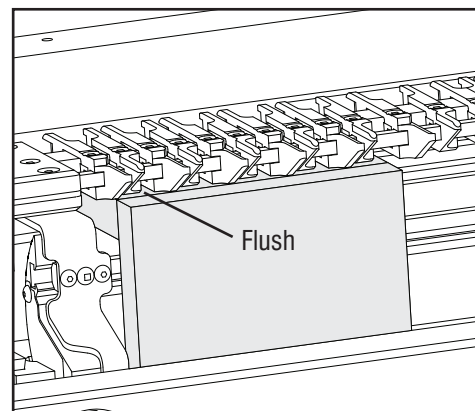

Fig. I19
- When vertically mounting the first board (B1), be sure the top of this piece is flush with the horizontal scrap board. This will need to be checked manually with a straight edge. (Fig. I19)